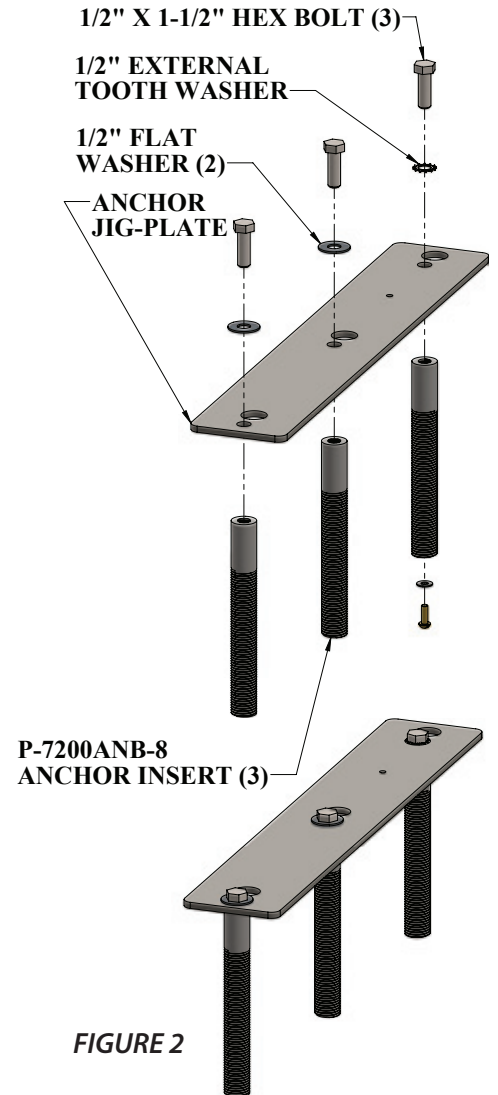

FIGURE 2
4. Thread the 1/2 inch hex bolts and flat washers through the smaller anchor jig plate holes and into the anchor inserts. Be sure to use anti-seize on the threads! Confirm the tops of the inserts are flush with the bottom of the plate. *SEE FIGURE 2 ON PAGE 5*